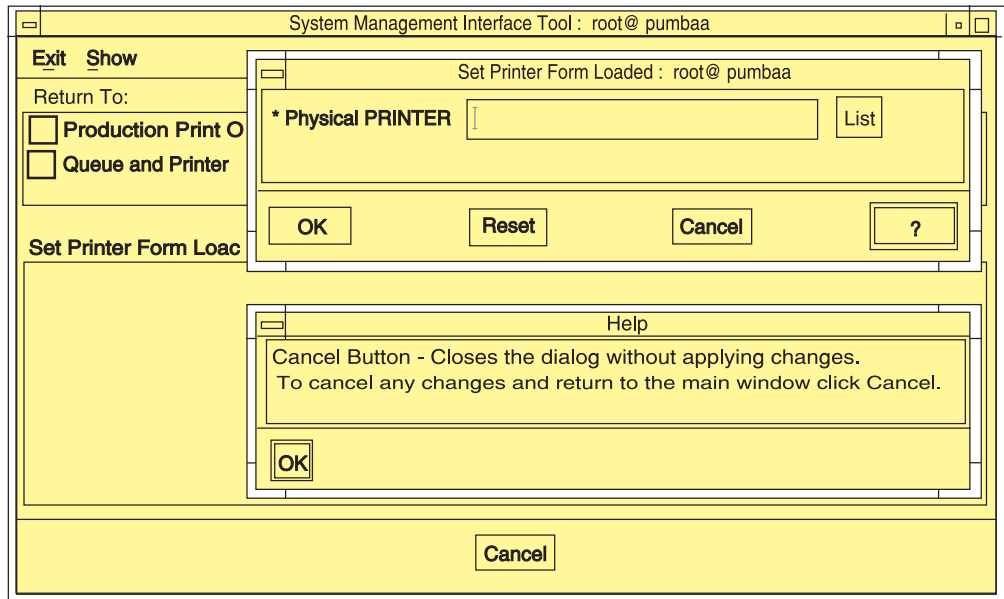

Figure 53. Help for SMIT Window Fields and Buttons
1. Select the button labeled with a question mark at the bottom right of the window. A **Help** window displays beneath the SMIT window. Figure 53 on page 214 shows the results of selecting the question mark button.